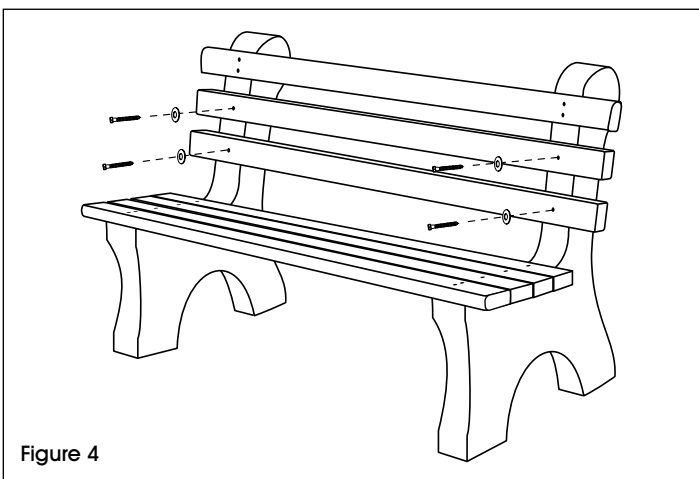

Figure 4
6. Align the remaining two single hole bench slats on the pre-drilled holes of the bench base backrest. Loosely attach the single hole bench slats with the 3/2" lag screws and washers using the power drill and 7/16" socket bit (will tighten later in step 7). (See Figure 4)